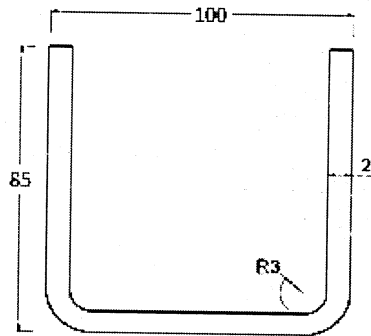

Fig No.2
- Q.3 A) 0.8 mm thick circular cup as shown in figure no. 2 is manufactured by using deep drawing operation. Determine following. 20